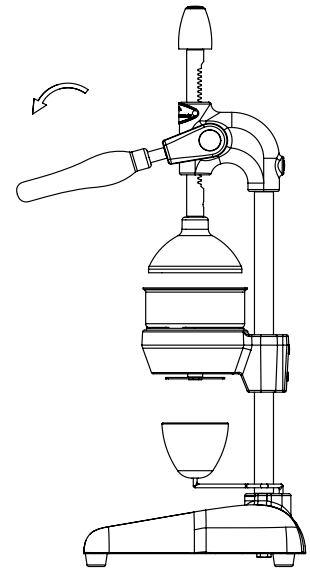

Figure 6
Turn the products' Arm (09) approximately 1,5 tour around towards yourself to squeeze the fruit. (Figure 6) After squeezing process, turn around the Arm (09) in opposite and remove the fruit pulp from the Strainer.